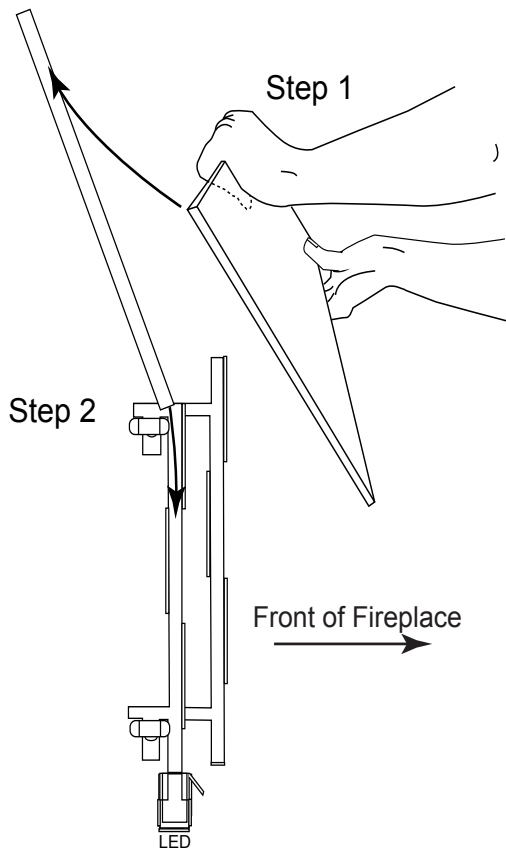

Fig. 10 Installing glass panels.
- Using gloves carefully lift one glass panel, into the fireplace opening, over top of the glass clips, and slide it down into the metal retainer clip, supporting the glass at the top and bottom as you handle it. See Fig. 10
- Install the second glass pane in the same manner as described in Fig. 10.